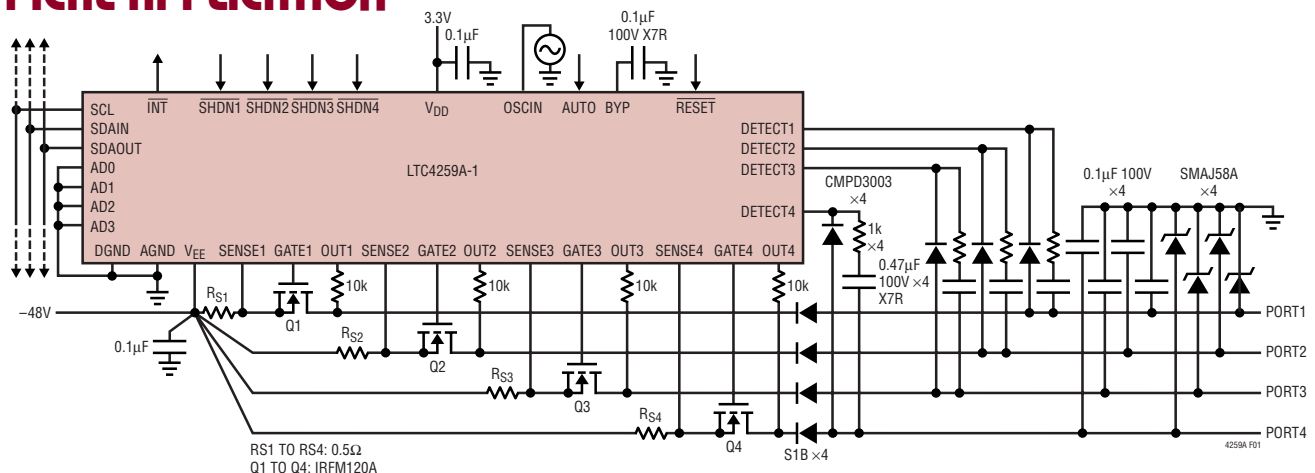

Figure 1. Complete 4-Port Powered Ethernet Power Source
The LTC[®]4259A-1 is a quad –48V Hot Swap™ controller designed for use in IEEE 802.3af compliant Power Sourcing Equipment (PSE). It consists of four independent ports, each with output current limit, short-circuit protection, complete Powered Device (PD) detection and classification capability, and programmable PD disconnect using AC or DC sensing. Used with power MOSFETs and passives as in Figure 1, the LTC4259A-1 can implement a complete IEEE 802.3af-compliant PSE.